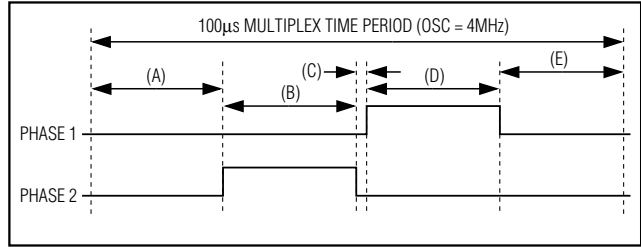

Figure 18. Filament Bridge Driver Timing Waveforms
The waveform generation uses PWM to set the effective RMS voltage across the filament, as a fraction of the external supply voltage (Figure 18) (Table 35). The filament switching frequency is synchronized to the multiplex scan clock, eliminating beating artifacts due to differing filament and multiplex frequencies.
The minimum commutation time, shown at (C) in Figure 18, is set by (2/OSC)s (500ns when OSC = 4MHz) to ensure that shoot-through currents cannot flow during phase reversal. Otherwise, the duty cycle of the bridge sets the RMS voltage across the filament. This technique provides a low-cost AC filament supply when using a regulated supply higher than the RMS voltage rating of the filament.